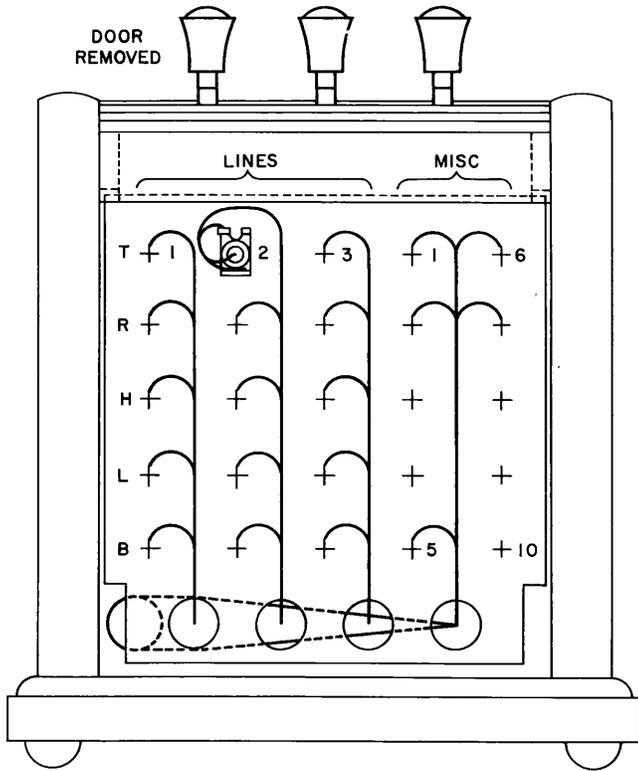

Fig. 2 – Terminal Strip Wiring
5.01 Fig. 2 and 3 show typical cabling. Mounting arrangements are shown in Fig. 4 through 8. When inclined mounting is used, the cable should be placed through mounting block before terminating in key box.